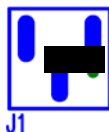

Figure 3: J1 controls EN\_PB input.
**STEP 2:** Set the EN\_PB jumper J1 to the desired position. See Figure 3. Pulling it low disables the pre-bias mode operation. Pulling this jumper high or letting it float will allow monotonic start-up with a pre-biased output. In pre-bias mode, VOUT will not discharge very quickly. Therefore, you may need to apply a small load (~10mA) at shut-down to ensure that the output voltage discharges. In Figure 3 the jumper is set low to disable pre-bias mode.